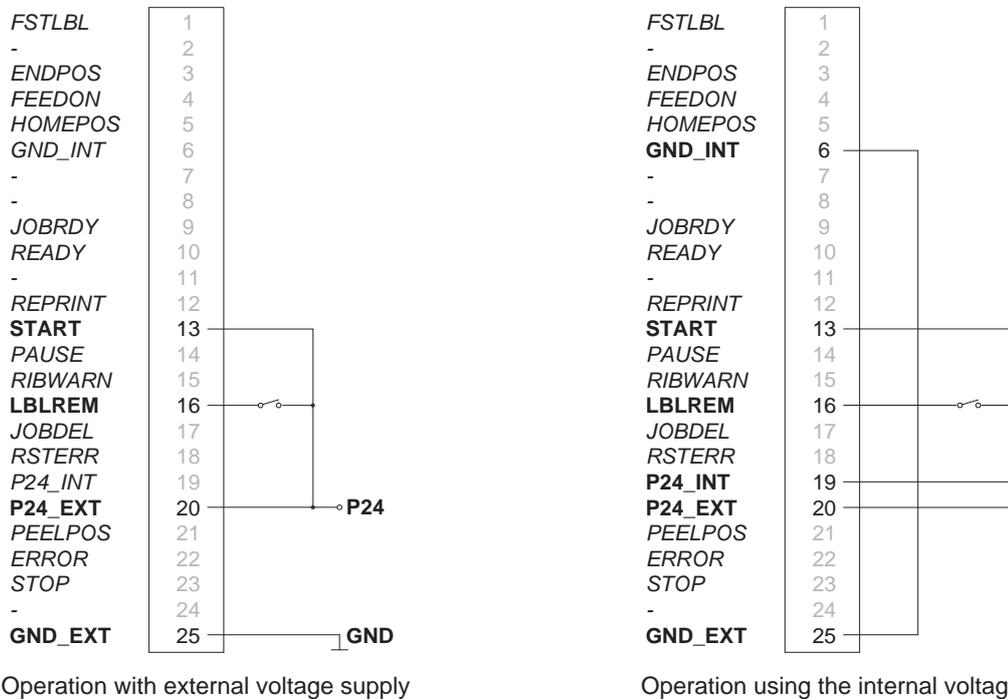

Figure 30 External circuit for peeling-off on demand without present sensor with switching signal LBLREM
- External circuit as shown in Figure 30.